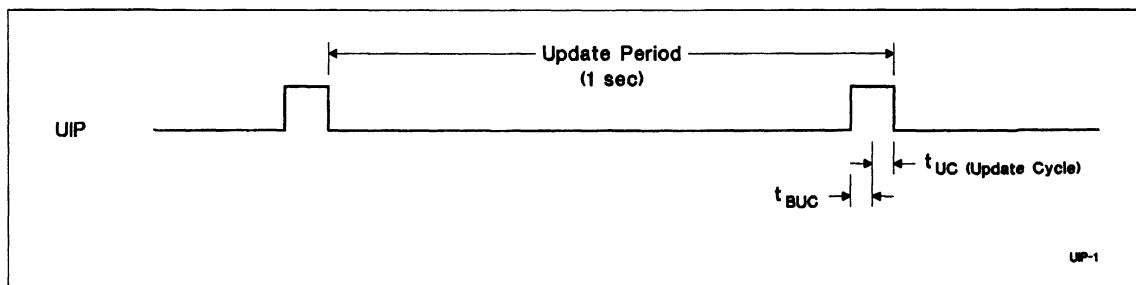

Figure 2. Update Period Timing and UIP
locations during the update cycle at the end of each update period (see Figure 2). The alarm flag bit may also be set during the update cycle.
The update-in-progress bit (UIP) in register A is set  $t_{BUC}$  time before the beginning of an update cycle (see Figure 2). This bit is cleared and the update-complete flag (UF) is set at the end of the update cycle.